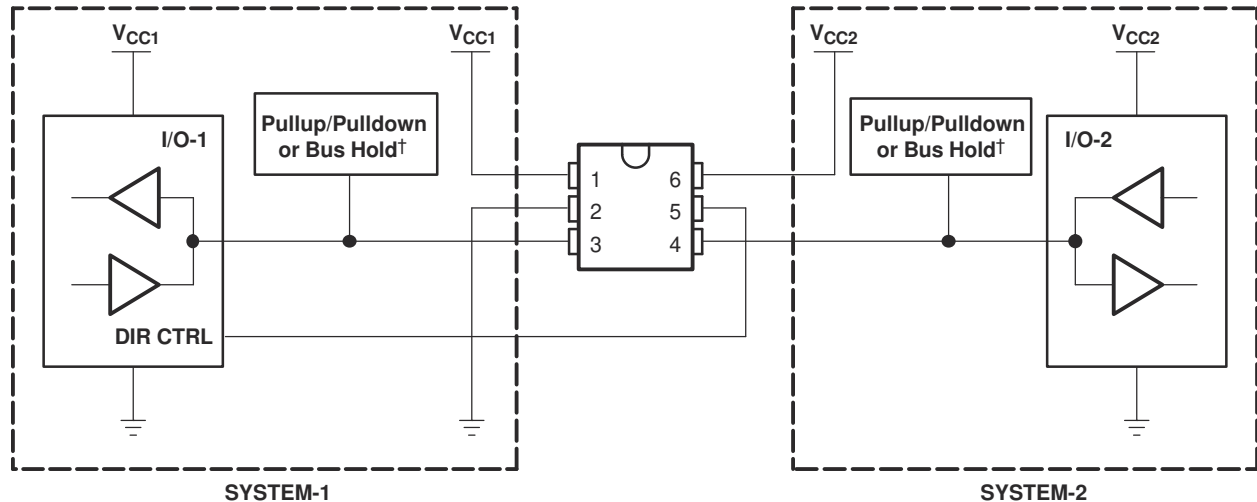

図 8-3. Bidirectional Logic Level-Shifting Application
図 8-3 shows the SN74AXC1T45 being used in a bidirectional logic level-shifting application. Because the SN74AXC1T45 does not have an output-enable (OE) pin, the system designer should take precautions to avoid bus contention between SYSTEM-1 and SYSTEM-2 when changing directions.